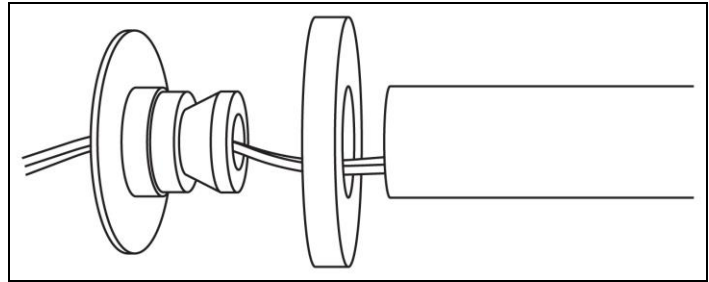

Fig 5
2. Pass power leads through cover flange and hole in base. Fig 5